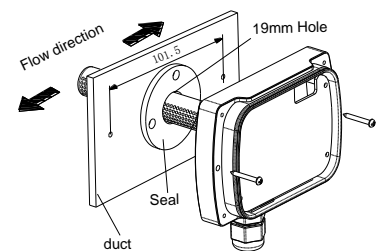

Fig.4
2. Install the enclosure directly on the duct as Fig.4. Drill a  $\phi$  19mm hole on the duct, insert the probe into with the seal ring, and screw the enclosure on the duct directly.